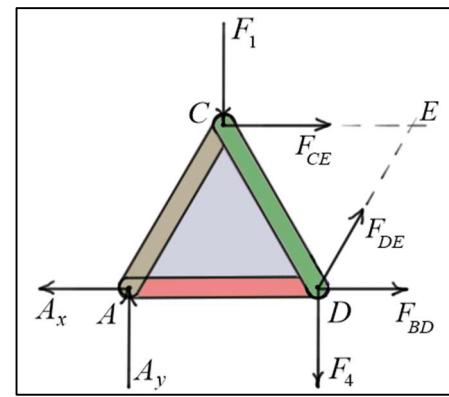

Fig. 5 Free Body Diagram of Section ACD
- An important part of this strategy is to *identify sections* of the truss that have only *three unknown forces* acting on them. To find such a section it may be necessary to first find the external support forces. In the section shown in Fig. 5, if the external support forces A_x and A_y are known, only three unknown member forces remain on that section.